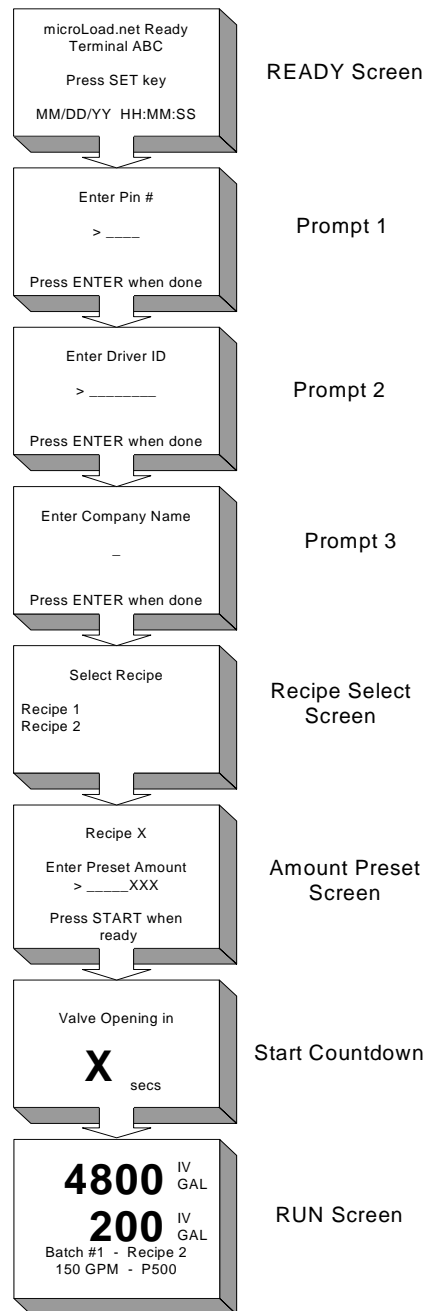

Figure 4. Typical Prompt Sequence
1. The Automated Proving Mode must be enabled via "Volume Accuracy, Auto Prove Select", parameter 331. This parameter is used to enable or disable the Automated Proving Mode. The default for this program code will be disabled. Select one of the two (2) security options to enable the automated prove and associated security. Once selected and the security activated, the beginning of the next transaction will launch the auto prove.
3. The programmed security must be met. When normal conditions are met for starting a transaction (pressing the "SET" key or receiving authorization via communications), the Automated Proving Mode will be activated. After the microLoad.net has gone through the user programmed prompts (see Figure 4) the will display the question "Are You Proving?". If the user indicates NO, the balance of the preset sequence will continue as if a normal load. If the user answers YES, the automated proving sequence continues.